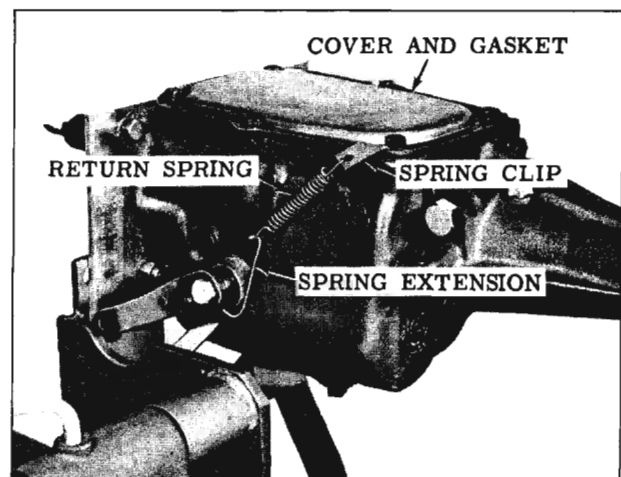

Fig. 11-7 Return Spring Assembly
2. Remove the return spring, spring extension, spring clip, cover, and cover gasket. (Fig. 11-7)